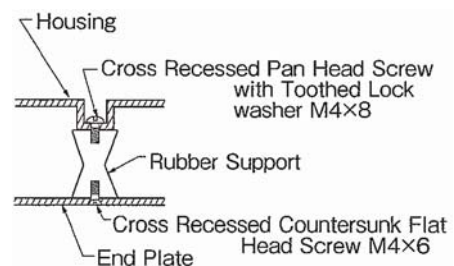

Fig. 11
3) Loosen the screws at both sides of the Rubber Support and remove the Rubber Support. Now the disassembly is completed. (Fig.11)